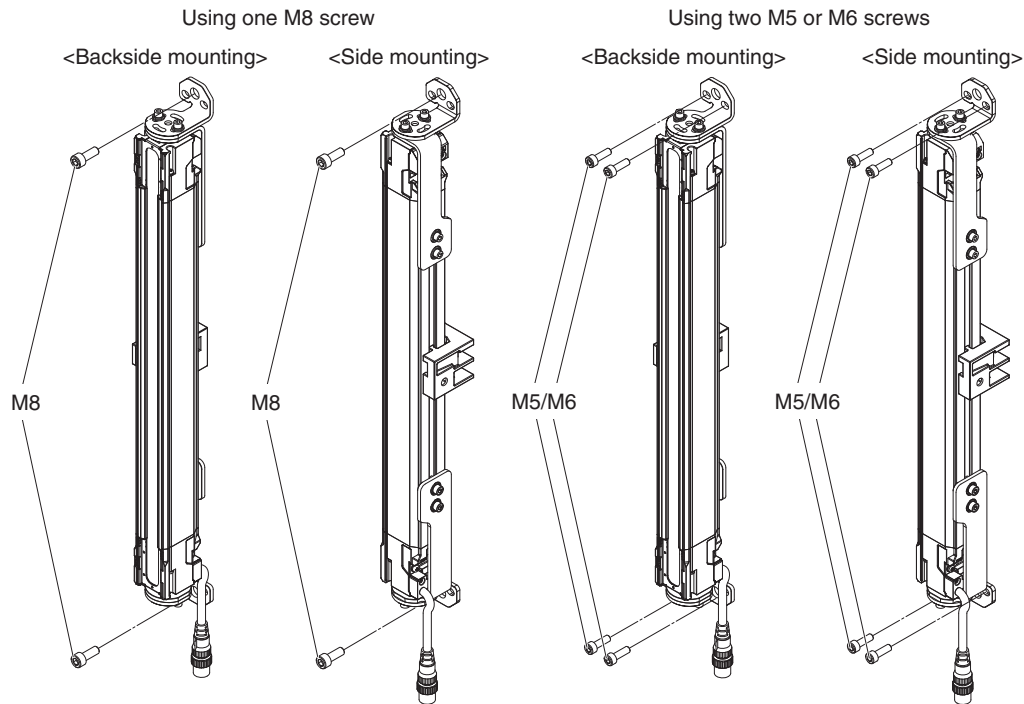

Fig. 7
- 6.** Securely tighten screws to fix the Top/Bottom Bracket to the mounting position of the wall surface. (Fig.7)